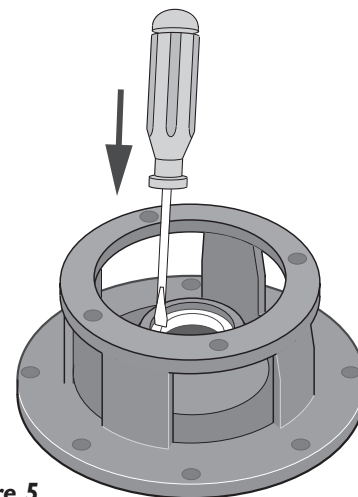

Figure 5
- Step 9. Place adapter/seal plate face down on bench and drive old stationary half of seal out of adapter/seal plate by carefully tapping with screwdriver and hammer (Figure 5).